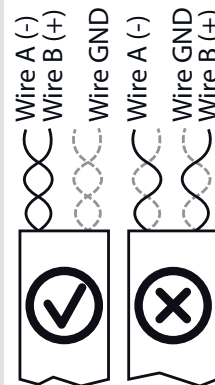

Figure 24: Assignment of twisted-pair wires
- ⌚ Observe the wire pairing when connecting DATA+ and DATA- (see Figure 24).